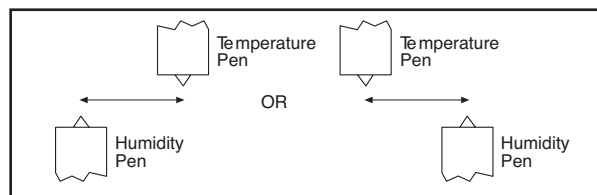

Figure 2-9. Offset Alignment of Pens (For Ease of Pen Installation)
- a. If the pen arms are offset as shown in Figure 2-9, continue to Step 3:
1. Check to see that the pens are offset as shown in Figure 2-9. Otherwise, you can damage the arm and drive mechanism if you try to remove them.